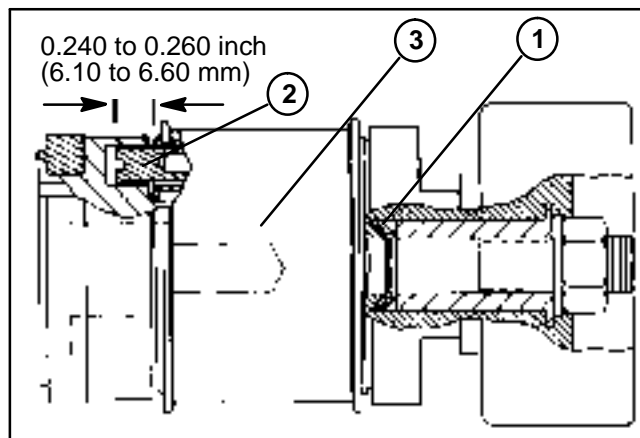

Figure 16
**IMPORTANT: Make sure belleville washers are installed correctly (Fig. 16).**
5. Apply Loctite 271 or equivalent to the threads of the special screw. Secure compression spring to the special screw with clutch pin. The clutch pin should extend out from 0.240 to 0.260 inch (6.10 to 6.60 mm) the face of the driver pulley when the pin is fully extended (Fig. 16).